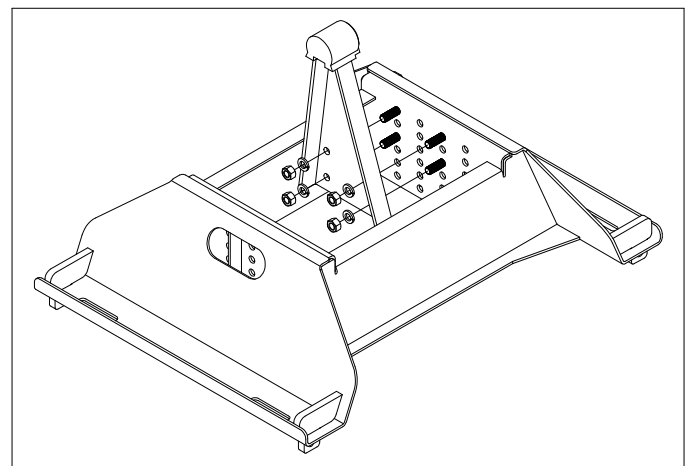

Figure A3: View looking into base.
3. Align the flat side of the pivot arm flat against the bolt plate while passing the pivot arms over the 1/2" cap screws. Install four 1/2" Lock washers and 1/2" hex nuts, as shown in Figure A3. After the pivot arms and bolts are in place, torque each bolt to 110 ft-lbs.